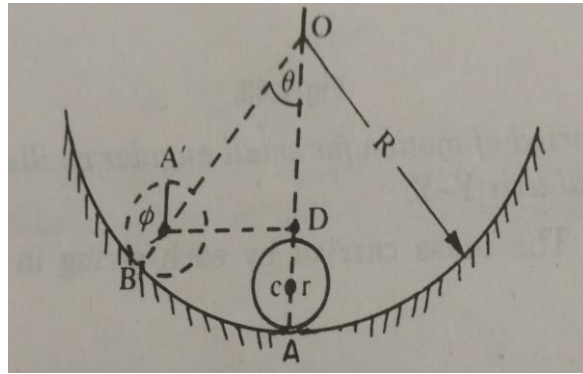

Figure:2
5. The cylinder of mass m and radius r rolls without slipping on circular surface of radius R as shown in figure.2. Determine the natural frequency for small oscillations about the lowest point.